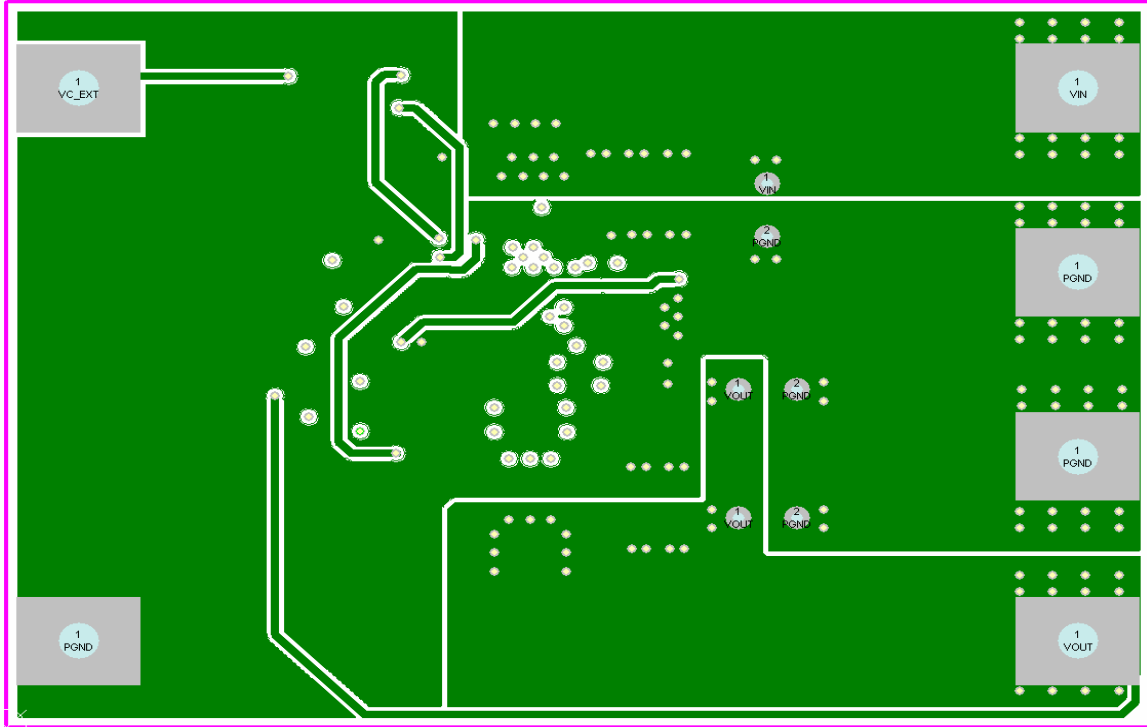

Figure 3c: IRPP3637-12A Reference Design mid-layer2 layout.
4. The feedback track from the output V_{OUT} to FB pin of the IC is routed as far away from noise generating traces as possible in mid-layer 2 as shown in figure 3c.